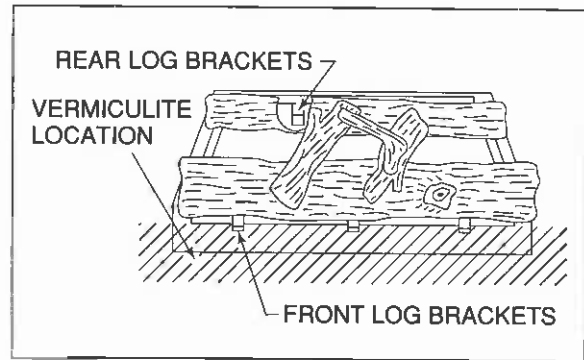

Figure 8
1. Verify log, rock wool and vermiculite placement. They are shipped in a separate package and must be positioned as shown in Figure 8 (page 6). Do not cover top of burner nor the holes in the sides of the burner with vermiculite.
After removing glass, logs can be lifted out of position. If for any reason one should need replacement, you must use the proper replacement log. The position of these logs must be as shown in Figure 8.